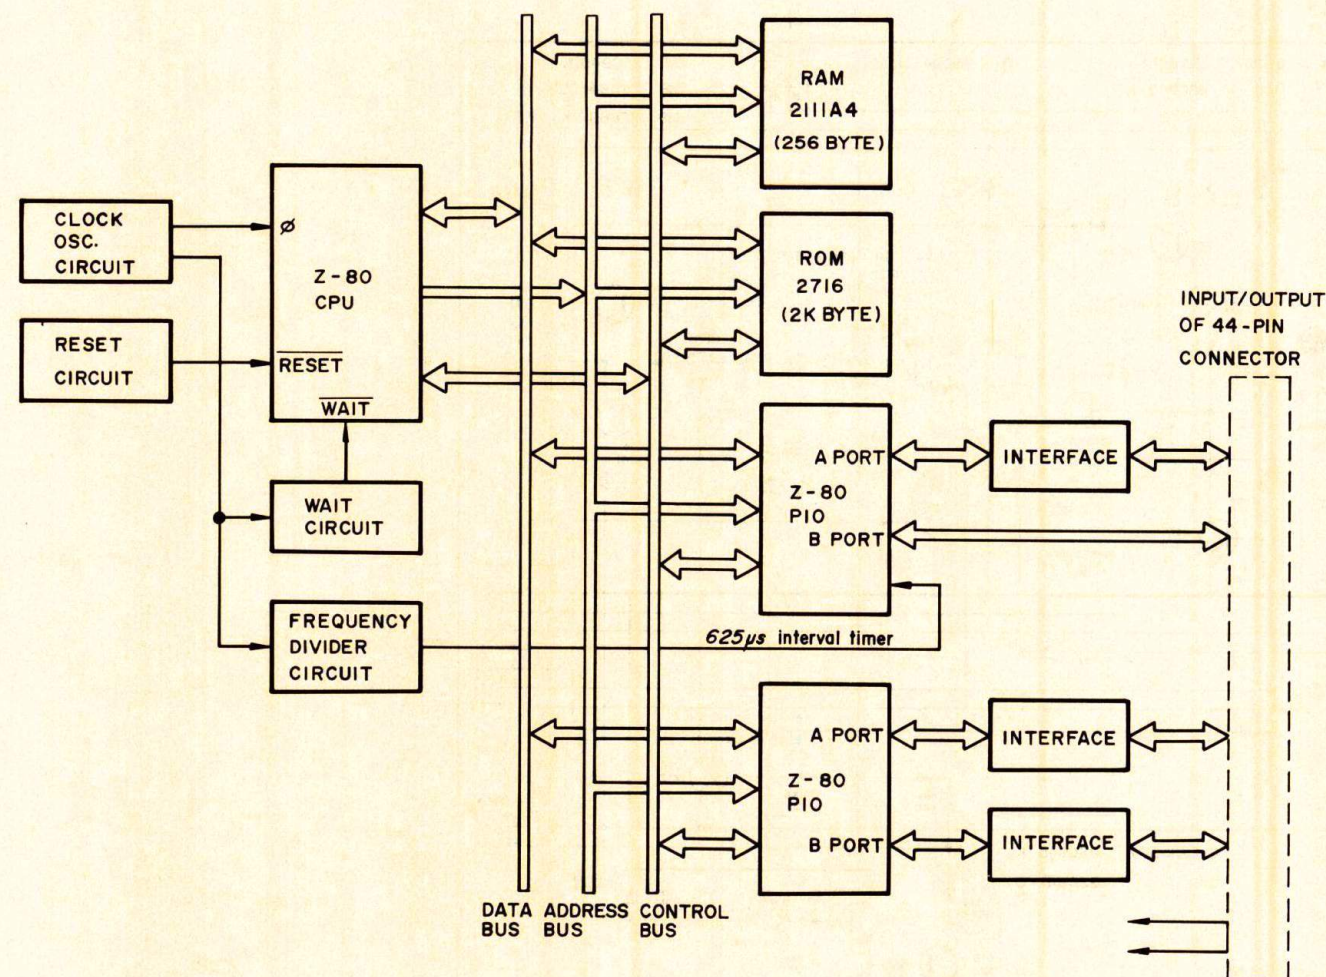

Figure 21 BLOCK DIAGRAM OF CONTROL CIRCUIT (MICROPROCESSOR)
- (5) A block diagram of the microprocessor is shown in Figure 21.